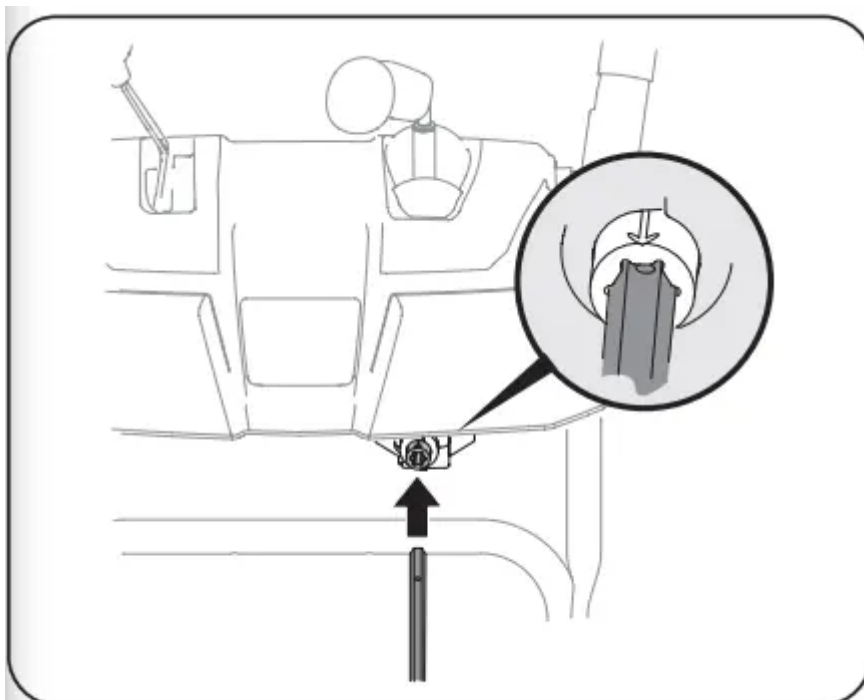

Figure 24
6. Insert chute control rod into pinion gear below joystick. Make sure to line up hole in rod with arrow on pinion gear. See Figure 24